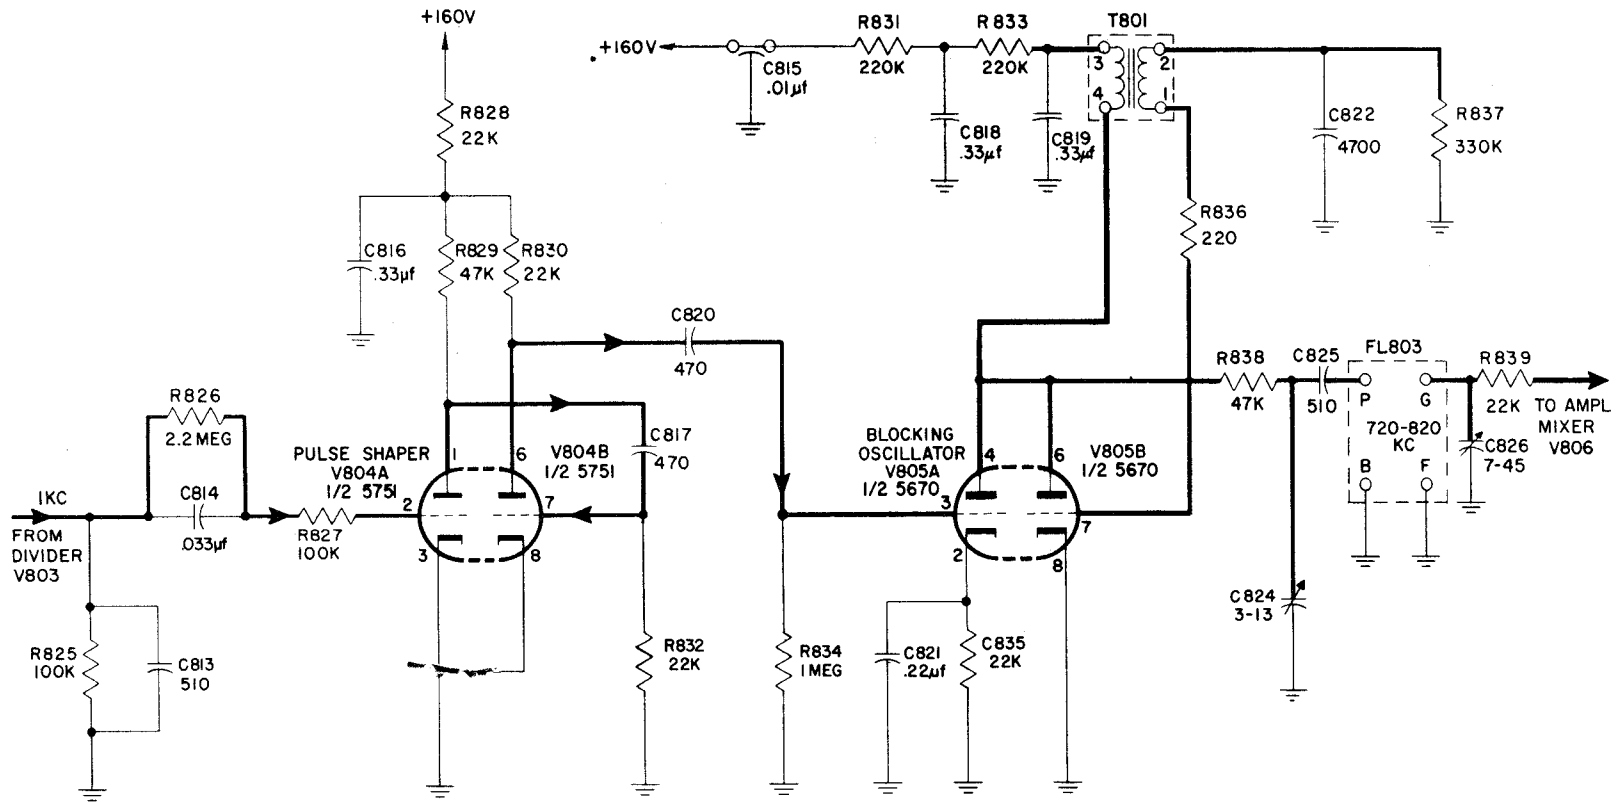

Figure 4-49. Pulse Shaper V804 and Blocking Oscillator V805, Simplified Schematic Diagram
To use this harmonic spectrum with the variable frequency output of interpolation oscillator V401 (see par. 4-14), a bandpass filter with a 100 kc bandwidth in the range of 720 kc to 820 kc (FL803, figure 4-49) is connected to the output of blocking oscillator V805.
d. PULSE SHAPER V804, BLOCKING OSCILLATOR V805. (See figure 4-49.)—Triggered by pulse shaper V804, blocking oscillator V805 produces sharp pulses, ranging in 1 kc steps from a fundamental 1 kc to beyond its 820th harmonic. A portion (720 kc to 820 kc) of this spectrum provides harmonics to be mixed in the injection IF amplifier with signals from variable-